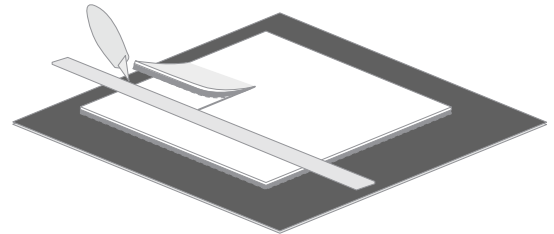

Figure 16
2. Measure and mark the desired cutting line on the backing of the tile (refer to Figure 16 for visual reference).